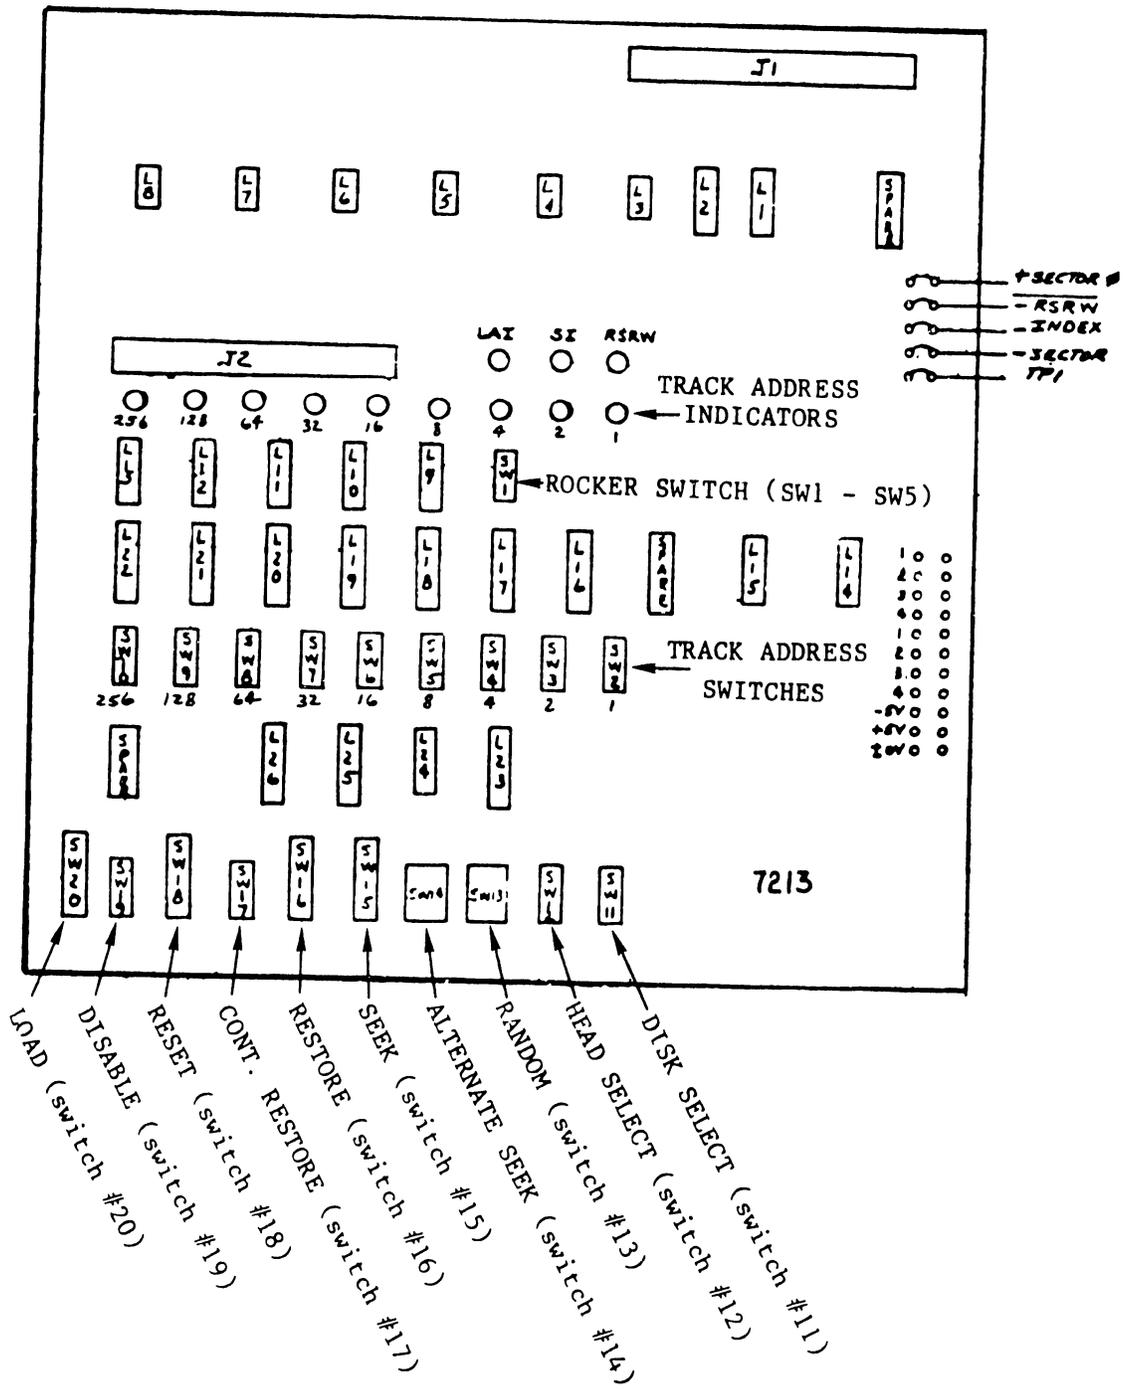

FIGURE 4-41 7213 DISK EXERCISER
1. TK1 through TK256 (switch #'s 2 through 10 in Figure 4-41). These are the track address switches. A track address is selected by setting the appropriate track address switches to ON. When the SEEK button is then pressed, the heads will move to the selected track. If the LOAD button is pressed, the selected track address will be loaded into the multiplexer of the exerciser board.
2. DS - DISK UPPER/LOWER (switch #11 in Figure 4-41) - When ON, the upper (removable) disk is selected; when OFF, the lower (fixed) disk is selected.
3. HS - HEAD UPPER/LOWER (switch #12 in Figure 4-41) - When ON, the upper head is selected; when OFF, the lower head is selected.
4. RND - RANDOM TRACK GENERATOR (switch #13 in Figure 4-41) - When ON, a random track pattern is generated; when OFF, the random track generator is off.
5. ALTERNATE SEEK (switch #14 in Figure 4-41) - When ON, the head positioner will continuously seek between two addresses: the address set on switches TK1 through TK256, and the address loaded in the multiplexer of the exerciser board (by a LOAD operation).
6. SEEK (switch #15 in Figure 4-41) - Pressing this momentary contact switch will move the heads to the address set on switches TK1 through TK256.
7. RST - RESTORE (switch #16 in Figure 4-41) - Pressing this momentary contact switch will position the heads at track zero.
8. CONT. RST (switch #17 in Figure 4-41) - When ON, the heads are repeatedly positioned to track zero.
9. RESET (switch #18 in Figure 4-41) - This momentary contact switch resets the exerciser.
10. DISP - DISABLE (switch #19 in Figure 4-41) - When ON, the track address is disabled. The head will remain positioned wherever it is when the DISP switch is turned on.
11. LOAD (switch #20 in Figure 4-41) - This momentary contact switch loads the track address (selected by switches TK1 through TK256) into the multiplexer of the exerciser.
12. UNIT SELECT (switch #1 in Figure 4-41) - This 5-bank rocker switch has the following functions:
- 1. The long cable plugs into J1 (Figure 4-41) on the tester. Caution must be exercised to ensure that pin 1 on the cables matches pin 1 on the receptacles.
- 2. The short cable plugs into J2 (Figure 4-41) on the tester.